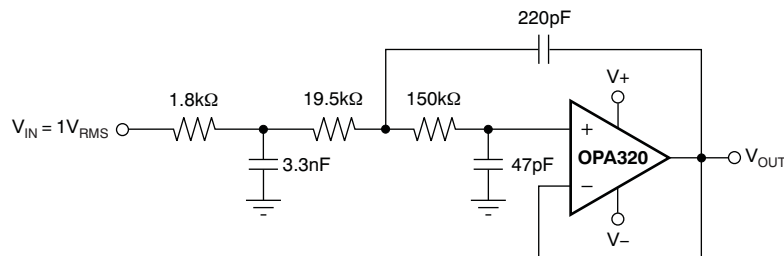

Figure 46. OPA320 Configured as a Three-Pole, 20kHz, Sallen-Key Filter
3. using a noninverting filter topology, such as the Sallen-Key (shown in Figure 46).